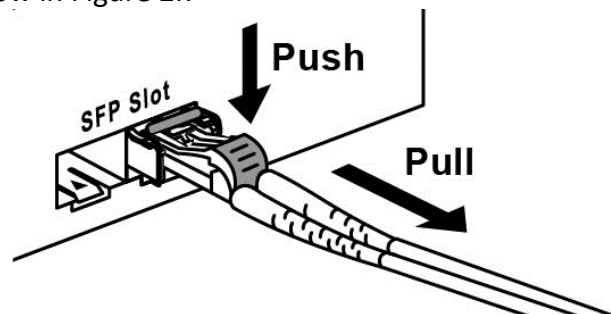

Figure 2.7: Remove LC Connector
- Step 1 Press the upper side of the LC connector from the transceiver and pull it out to release as shown below in Figure 2.7